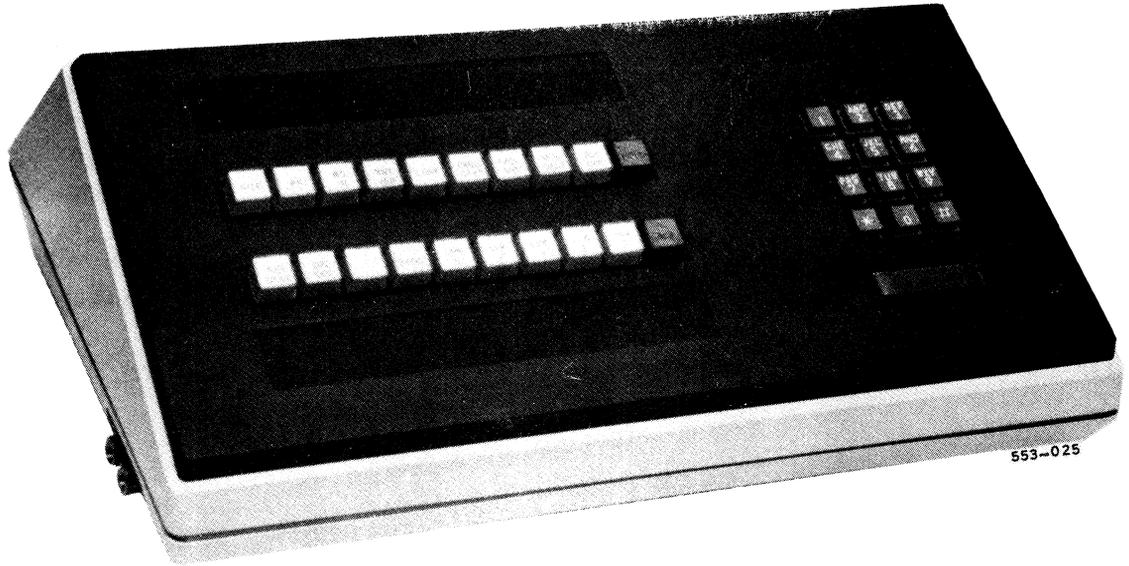
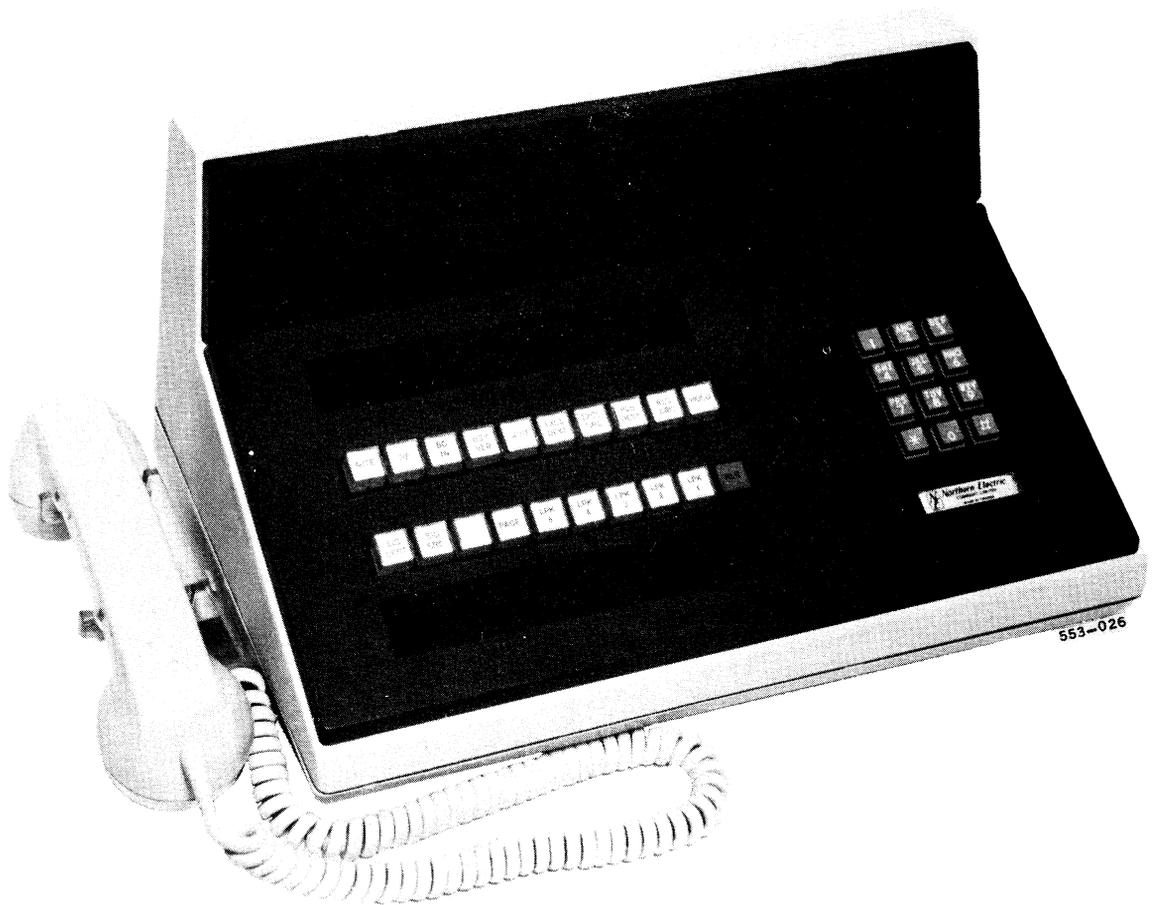

Fig. 1 -- QCN100-Type Telephone Console
Fig. 2 -- QCN102-Type Telephone Console
1.02 The QCN102-Type console (Fig. 2) differs from the QCN100-Type console (Fig. 1) in that it has a busy-lamp field mounted at the rear, a modified upper housing to accommodate the busy lamp field, and a removable lamp cover over the busy lamp field.